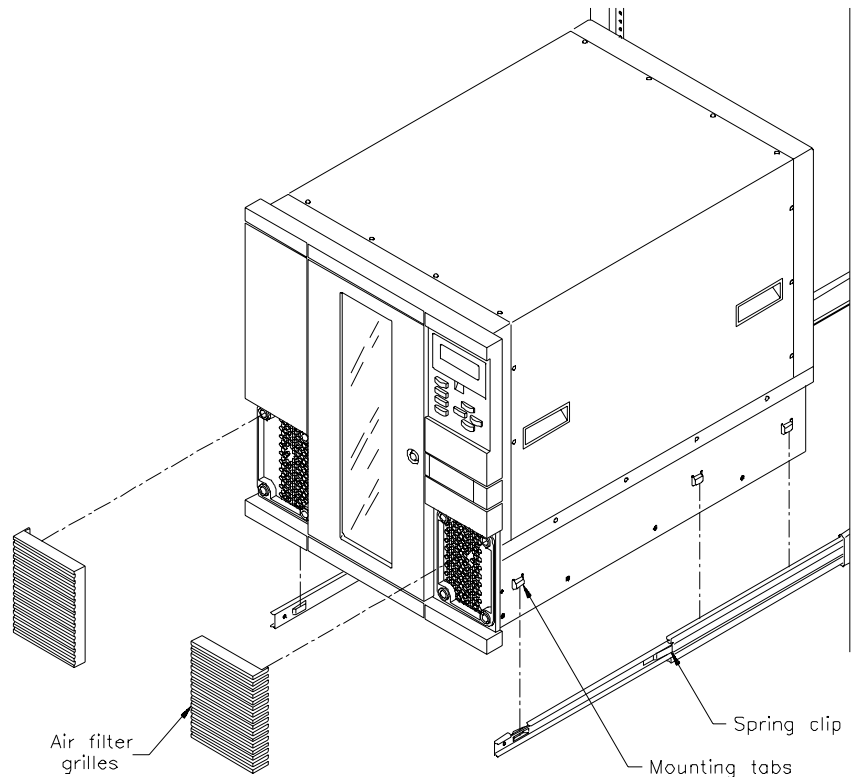

Figure 1-6 Installing the library in a rack
2. Slide the inside rails as far out of the rack as they will go (see Figure 1-6).
3. Remove the air filter grilles from the front of the library by lifting the outside edges and pulling the grilles away from the library (see Figure 1-6).
4. Using four people, or two people and a fork lift, lift the library by the handles and lower it onto the slide rails so the mounting tabs on each side of the library fit into the slots in the rails (see Figure 1-6). Make sure all six mounting tabs are fitted securely into the slots.